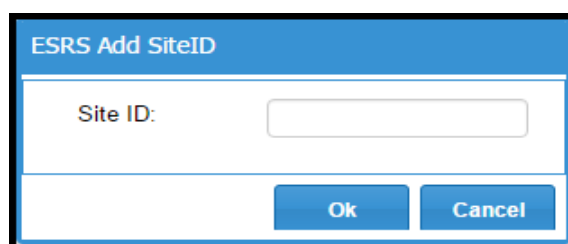

Figure 32 SRS Add Site ID dialog box
2. In the Site ID text entry box, as shown in Figure 32 on page 36, enter the additional Site ID, and then click **Ok**. The confirmation dialog box displays with the Site ID and Organization details.